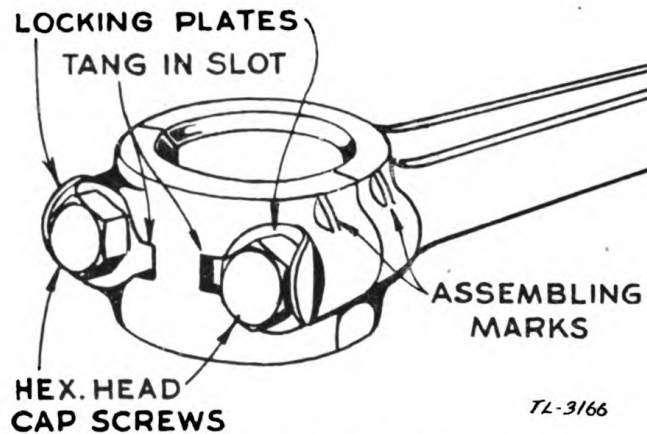

FIGURE 27.—Connecting rod assembly.
33. Connecting rod, Briggs and Stratton engine.—The connecting rod is also made of a special aluminum alloy combining strength with light weight. The assembly marks at the lower bearing must be toward the magneto side, when the connecting rod is assembled to the crankshaft. This engine has a connecting rod with a locking plate as shown in figure 27. The tang of this plate fits into the slot provided